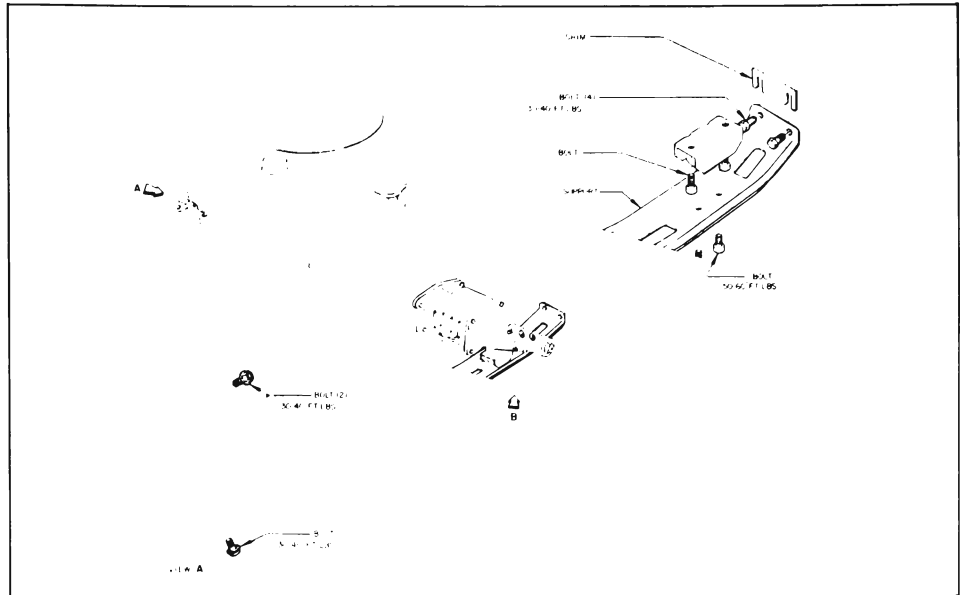

Figure 4-18—Four Speed Transmission Mounting
9. Remove two bolts attaching transmission mounting pad to transmission support. Leave mounting pad bolted to transmission. See Figure 4-18.